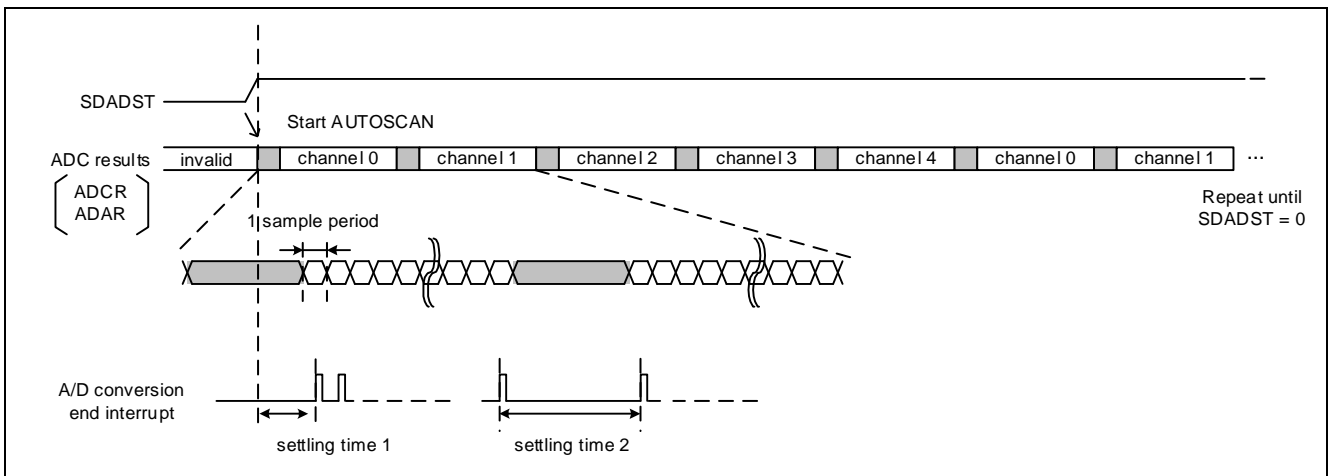

Figure 6 AUTOSCAN Sequence
- Settling time 1 — The time from ADC2.SDADST bit rising to A/D conversion end interrupt. See settling time 1 in Figure 6.
- Settling time 2 — The time from the last A/D conversion end interrupt before channel switching to the first A/D conversion end interrupt after channel switching. See settling time 2 in Figure 6.